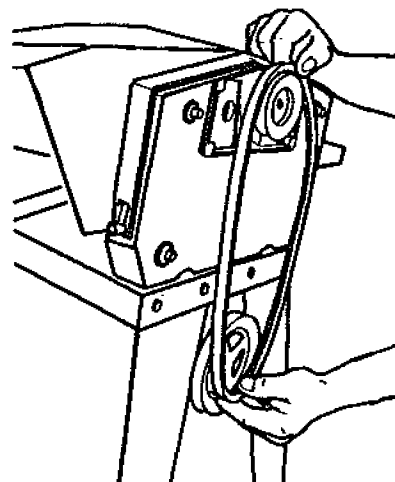

Fig. 36
44. Place the V-belt on both pulleys, as demonstrated in Fig. 36.